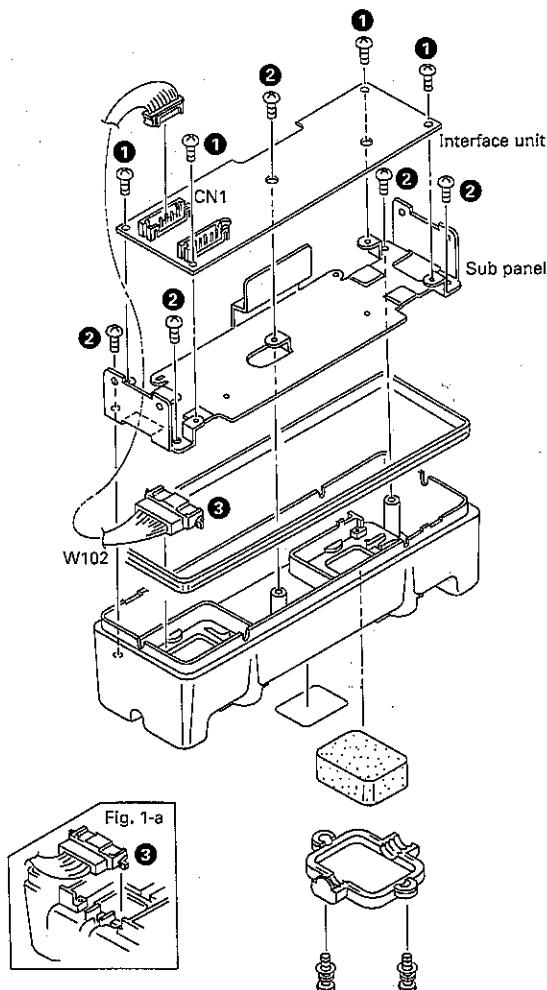

Fig. 1
1. Remove the four screws holding the interface unit (KRK-5, KRK-6DH : X46-3240) (①).
3. Remove the five screws (②) holding the subpanel.
4. See Figure 1-a for how to install the lead with a connector (③).